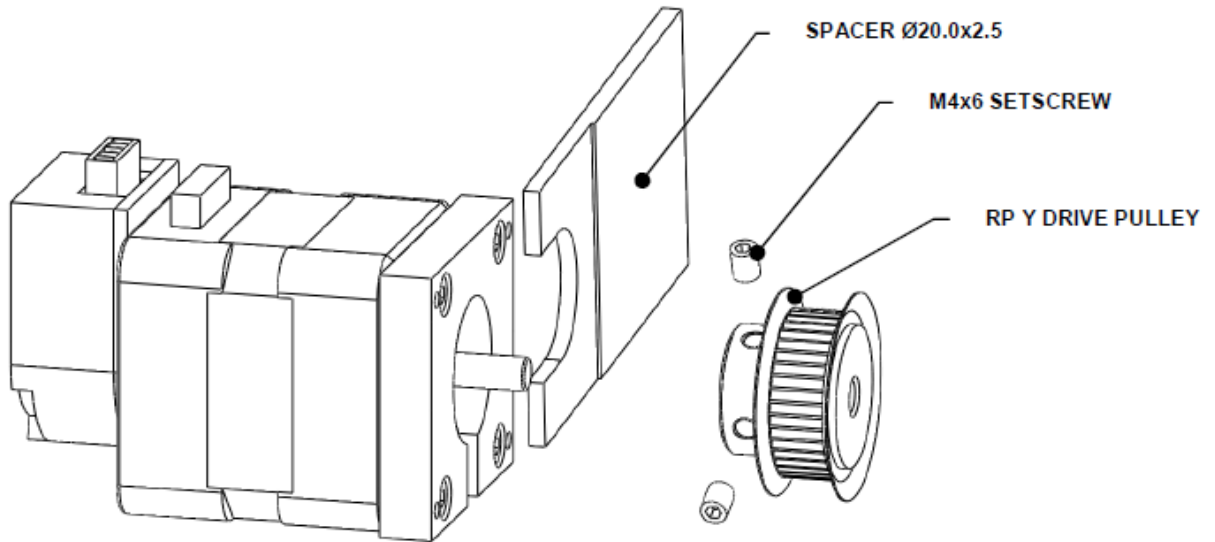

Figure P-16: Attaching the Pulley
9. Attach a pulley to the shaft of the motor using two M4x6 Set Screws and Loctite 222 using the spacer Ø20.0x2.5 (P24FIX030) (Figure P-16). Install the set screws firmly. The pointed cone of each set screw must pierce the motor shaft for a strong fit.